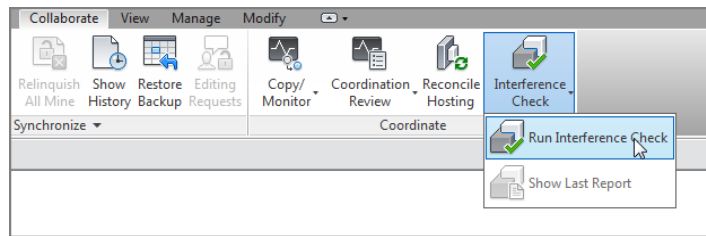

FIGURE 20.15: Run Interference Check on the Coordinate panel of the Collaborate tab
1. On the Coordinate panel of the Collaborate tab, select Interference Check > Run Interference Check, as shown in Figure 20.15.